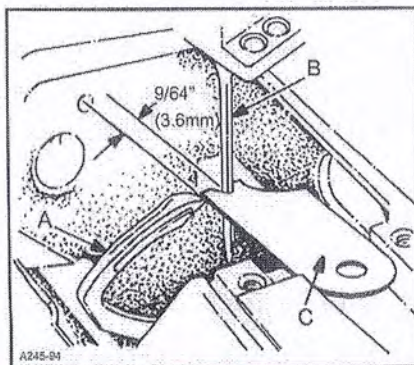
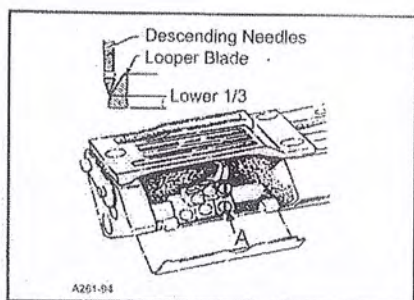

FIG. 6
FIG.7
Insert a new set of needles, type and size specified. Always adjust the looper (A, Fig. 6) for the left needle first. Set the looper so that the distance from the center of the needle (B) to the point of the looper (A) is 9/64" (3.6mm) when the looper is at its farthest position to the left. Looper gauge (C) No. 21225-9/64 can be used advantageously in making this adjustment. If adjustment
is required, loosen screw (A, Fig. 7) in looper holder, permitting movement in either direction to attain the $\frac{9}{64}$ " (3.6mm) dimension as shown in Fig. 6. Retighten screw (A, Fig. 7). Repeat for other needles and loopers.
Rotate handwheel in operating direction to assure that the looper point passes to the rear of the needle to touch but not deflect. This adjustment can be made by loosening screw (A, Fig. 7) in looper holder. Looper holder can be moved front to back to attain looper to needle setting. Always check the $\frac{9}{64}$ " (3.6mm) looper gauge setting after setting the looper to the back of the needle, and conversely, always check the setting of the looper to the back of the needle after setting the $\frac{9}{64}$ " (3.6mm) looper gauge.